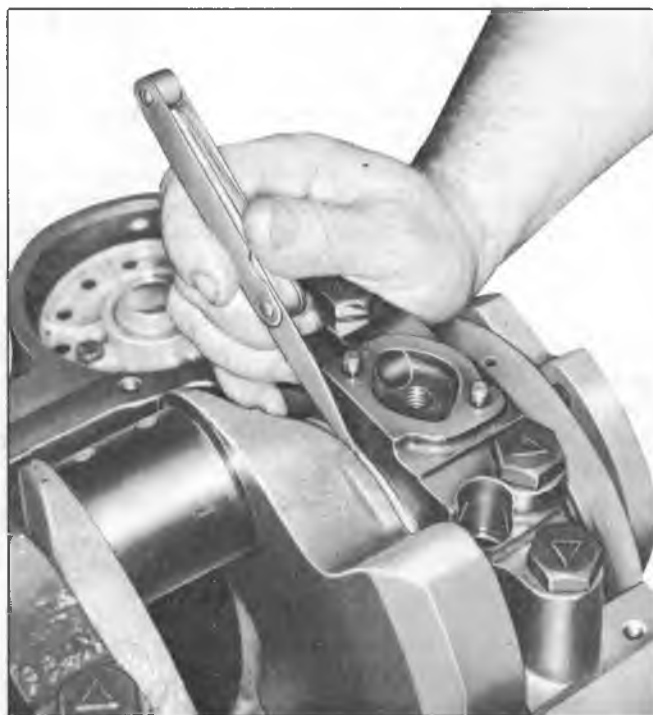

Fig. 42—Measuring Crankshaft End Play
9. Measure crankshaft end play (see specifications) by forcing the crankshaft to the extreme front position. Measure at the front end of the rear main bearing with a feeler gauge (fig. 42).